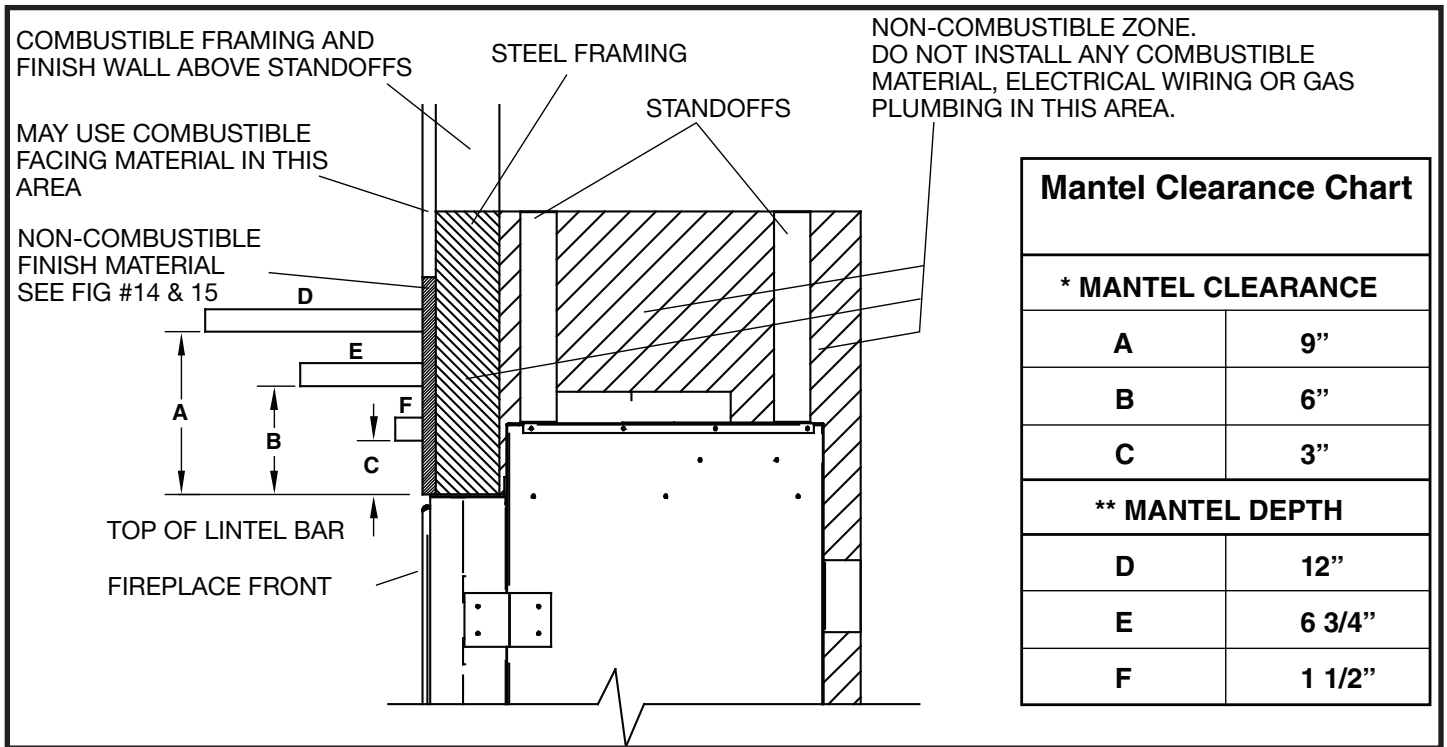
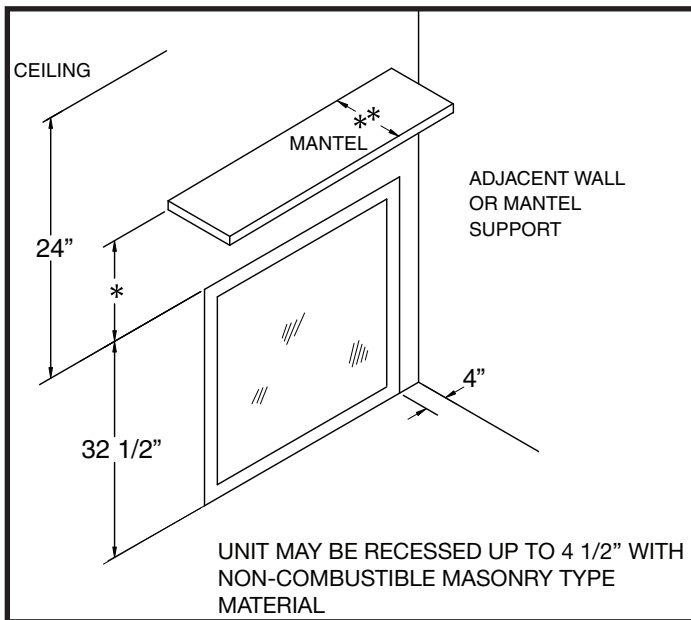

Figure 3: TC 36 Mantle clearances.
Figure 4: TC 36D Mantle.
*Mantle to appliance.....	(Figure 3)
**Maximum Mantle extension.....	(Figure 4)
The minimum clearances from the fireplace to combustible surfaces must be adhered to and are shown in Figure 3 & Figure 4.